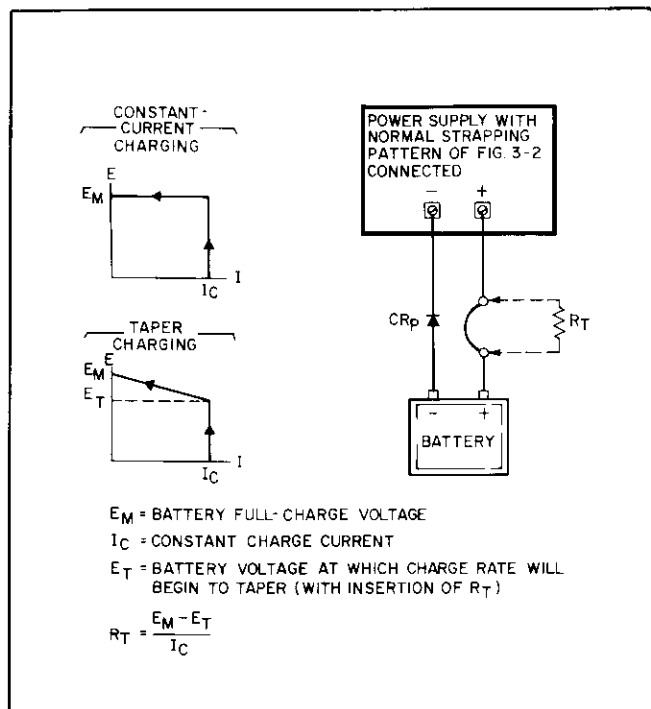

Figure 3-16. Battery Charging
Any time these supplies are used to charge a battery, be sure to install a protective diode CR_P in series with the battery as shown in Figure 3-16 to prevent the battery from discharging into the supply if the supply is turned off. Extensive damage to the supply could result if this diode were omitted.
- b. Connect a short circuit across the output terminals and rotate the VOLTAGE control fully clockwise (CW).
- e. Adjust the VOLTAGE control for an output voltage 0.7 volts greater than the desired full charge voltage. (The added 0.7 volts compensates for the drop across CR_P.) The supply may then be connected to the battery terminals, positive to positive and negative to negative as shown in Figure 3-16 (omit R_T).
3-90 Taper Charge. When charging lead-acid cells, many manufacturers recommend that the charging current be reduced as the charge nears completion. This can be accomplished by inserting a small resistance (R_T) in series with one of the load leads from the supply to the battery. (See Figure 3-16.) This resistor alters the normally rectangular charging plot in such a manner as to provide a taper charge for the last portion of the charge. The proper value for this resistor is the difference between the full charge voltage and the voltage at which the tapering is to start, divided by the initial charging current. Set the initial charging rate and full charge voltage as instructed in paragraph 3-89.